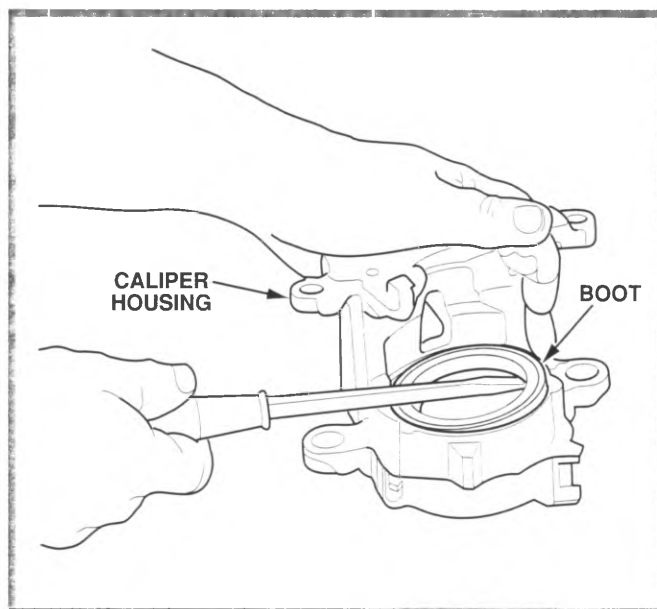

Figure 6-30, Remove Piston Boot
5. Use a screwdriver to pry the boot out of the caliper as shown in figure 6-30. Extend the screwdriver across the caliper bore, under the boot, and pry up. Use care not to scratch the caliper bore or the seal groove.